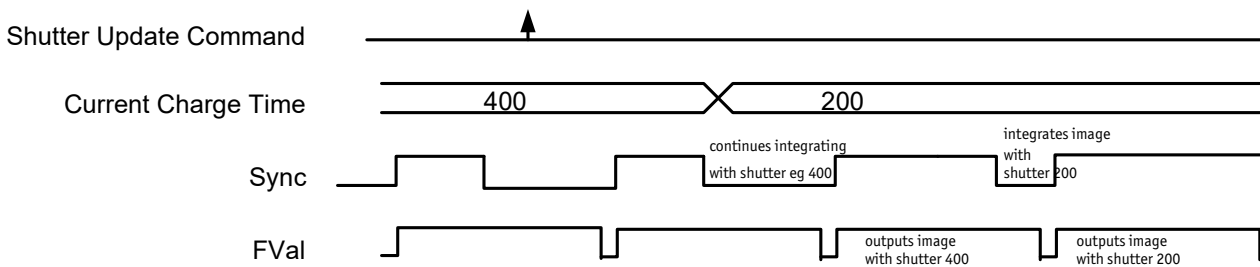

Figure 71: Former standard timing
- The delay from shutter update until the change takes place: up to 3 frames. Figure 71: Former standard timing on page 153 demonstrates this behavior. It shows that the camera receives a shutter update command while the sensor is currently integrating (Sync is low) with shutter setting 400. The camera continues to integrate and this image is output with the next FVal. The shutter change command becomes effective with the next falling edge of sync and finally the image taken with shutter 200 is output with a considerable delay.